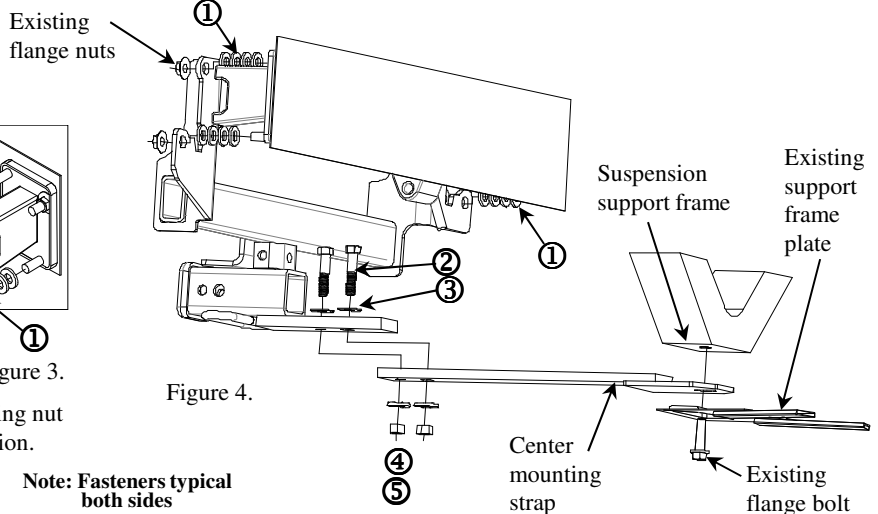

Figure 4.
- Attach the center support bar to the hitch as shown in figure 4.
- Reinstall the (2) underbody appearance panels.